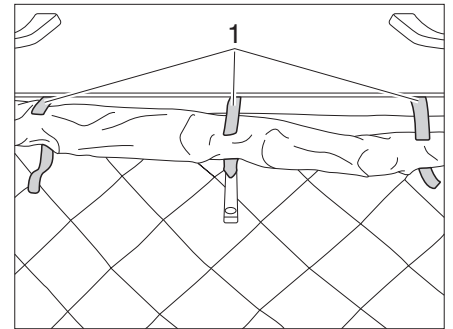

Fig. 16 Opening the Velcro
- Open the three Velcros (Fig. 16,1) of the cloth bellows.
- Roll up the cloth bellows in area of the locking mechanism with care and fasten with the three Velcros (Fig. 16,1).